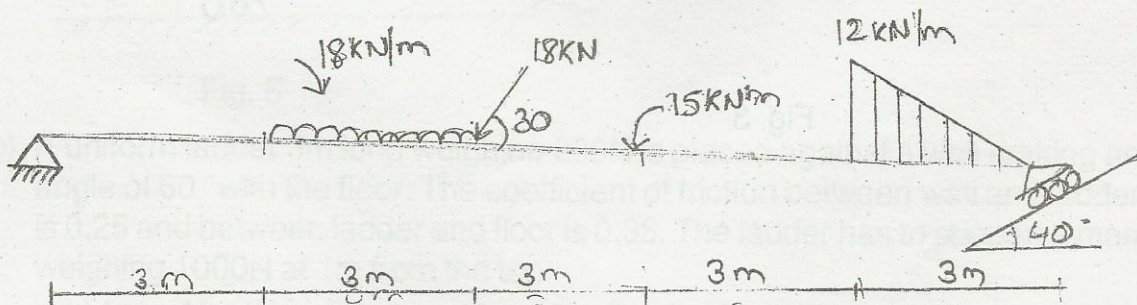

Fig. 1
3. a) Determine the support reaction for the beam shown in fig 1. 10